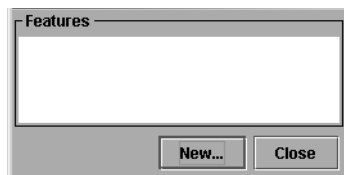

Figure 2: Configure Feature Key dialog box
1. At the **Hardware View**, click **Configure** at the top of the view and select **Features** from the pop-up menu. The **Configure Feature Key** dialog box displays (Figure 2).